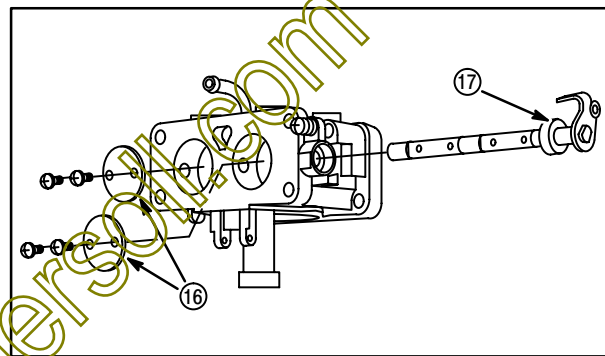

Fig. 122
11. Mark throttle plates (16), Fig. 122, before removal so they will be re-installed in the original position. Sides of throttle plate are beveled.